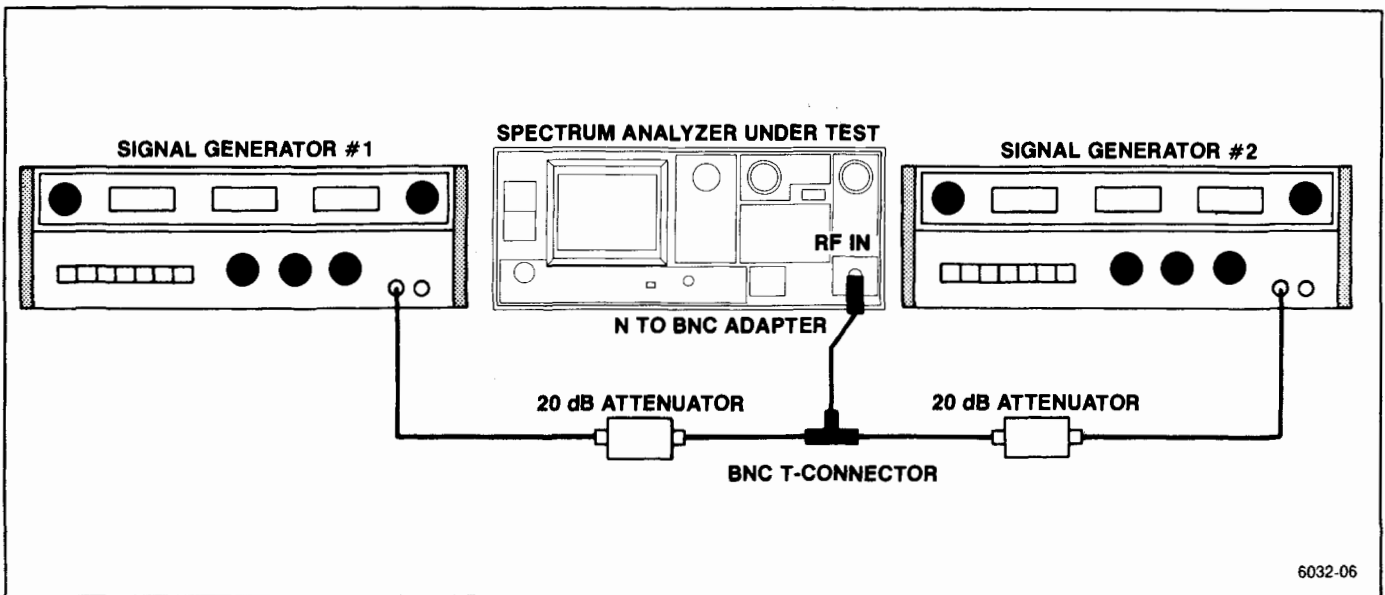

Figure 4-14. Test equipment setup for checking Intermodulation distortion.
a. Connect the test equipment as shown in Figure 4-14, and set the Spectrum Analyzer controls as follows: